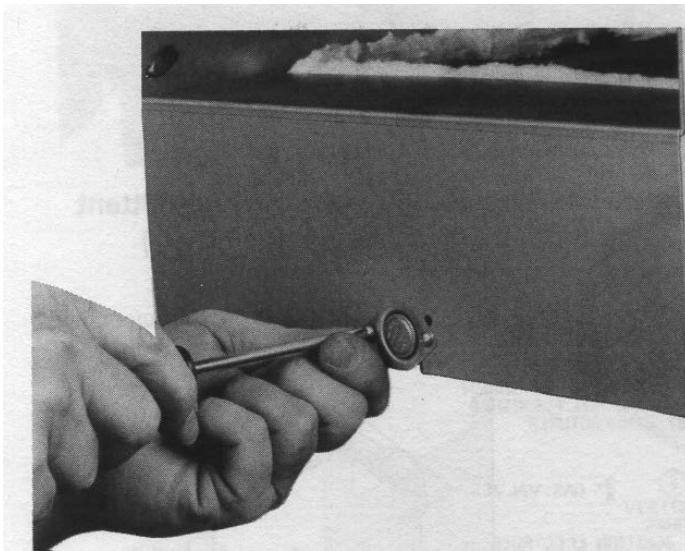

Figure 14: Blocked Vent Switch Installation, IN31 through IN91
1. Models IN31 - IN9I. Install on rear flange of canopy. See Figure 14.